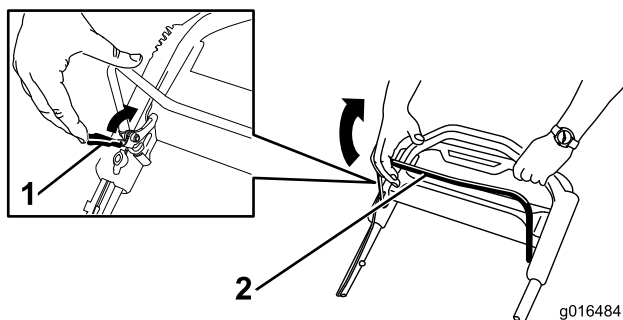

Figure 21
1. Pull the blade-control-bar lock back to the blade-control bar, and the blade-control bar back to the handle (Figure 21).